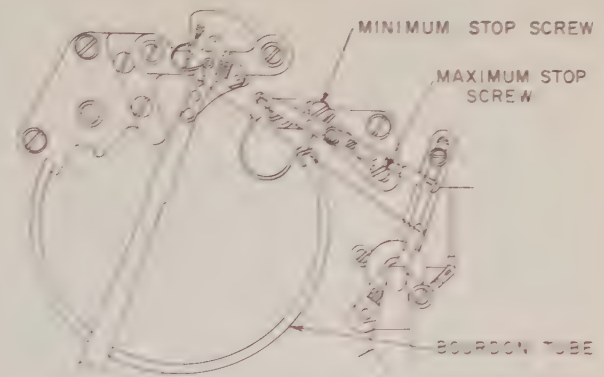

FIGURE 15 - Minimum and Maximum Stop Screws
1. Set minimum travel stop (Figure 15) by manually positioning Bourdon tube end stop so that indicating pointer reads 1/16 inch to 1/32 inch less than minimum scale mark. Loosen minimum stop screw and position next to Bourdon tube end. Then tighten screw securely.